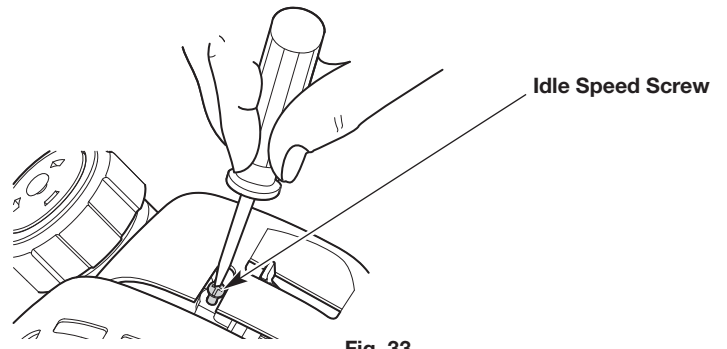

Fig. 33
- If the engine stops, use a small Phillips screwdriver to turn the idle speed screw clockwise, 1/8 of a turn at a time (as needed) until the engine idles smoothly (Fig. 33).
- If the engine idles too quickly, turn the idle speed screw counterclockwise, 1/8 of a turn at a time (as needed) to reduce the idle speed (Fig. 33).